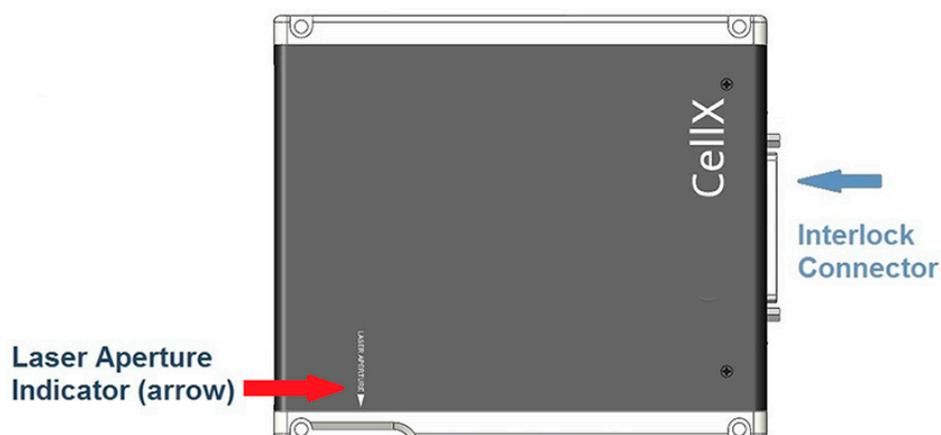
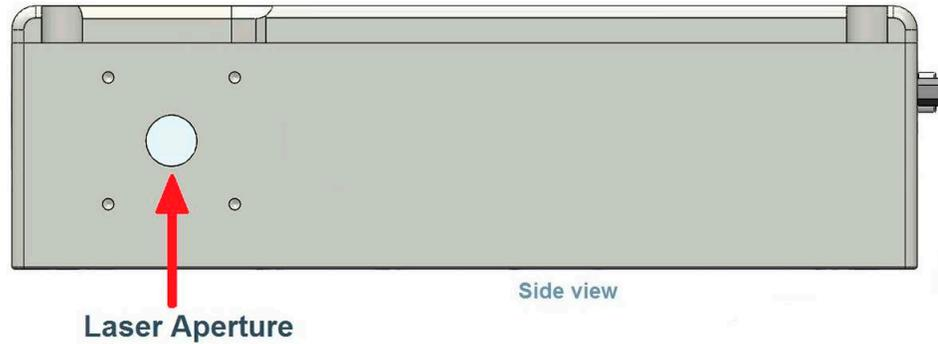

Figure 2-1. Laser Aperture Indicator on the CellX
Figure 2-2. Location of Laser Aperture
- See Figure 2-1 and Figure 2-2 for the location of the laser aperture through which laser radiation is emitted.
The directional arrow shown in Figure 2-1 that is printed on the top cover of the CellX unit shows the location of the laser aperture.
The arrow in Figure 2-2 shows to the location of the output beam on the right side of the CellX unit.